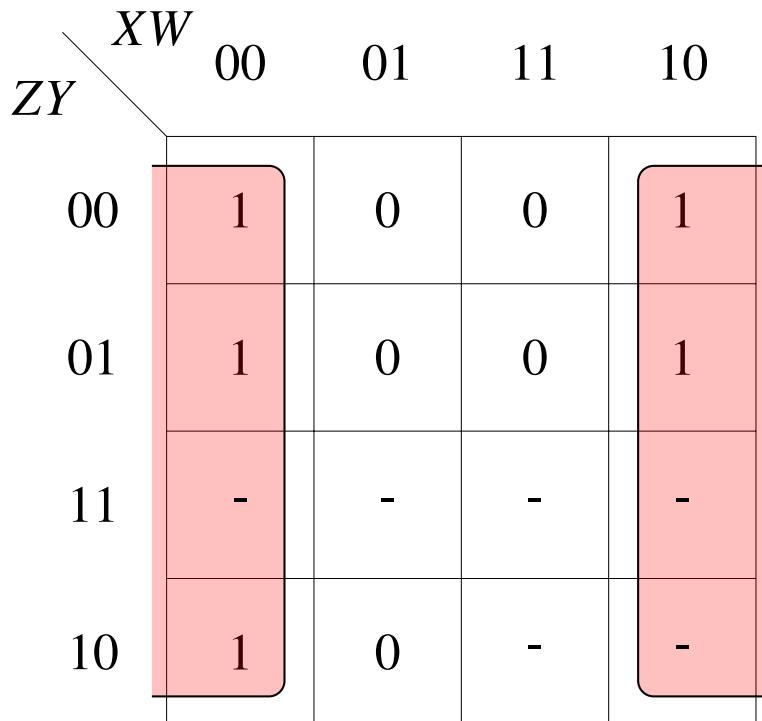

Fig. 4.5: K-map for  $A$  with don't cares
2. The revised K-map for A is available in Fig 4.5. Show that